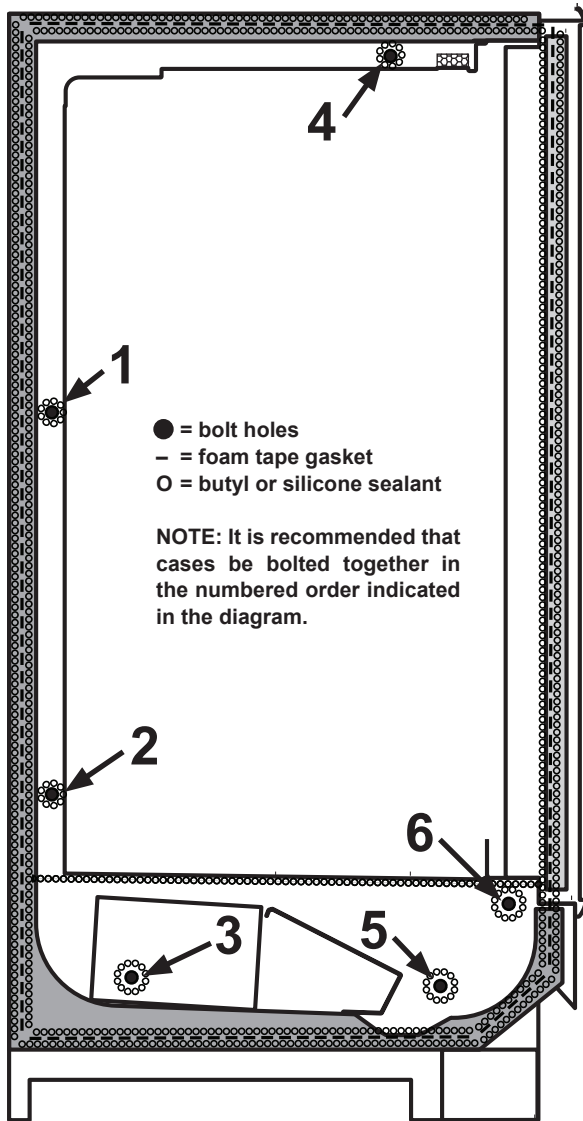

Fig. 3 Bolt holes, foam tape gasket and sealant
4. Follow the single-case installation instructions for the first case, then position the next case in the line-up approximately 3' away. Apply the foam tape gasket (supplied) and beads of butyl or silicone sealant to one of the adjoining case ends (Fig. 3). Remove the caster assemblies.
7. Push the cases tightly together, then lightly bolt them together through the holes that are provided (Fig. 3). Tighten all the joining bolts until all margins are equal. Be careful not to over tighten.